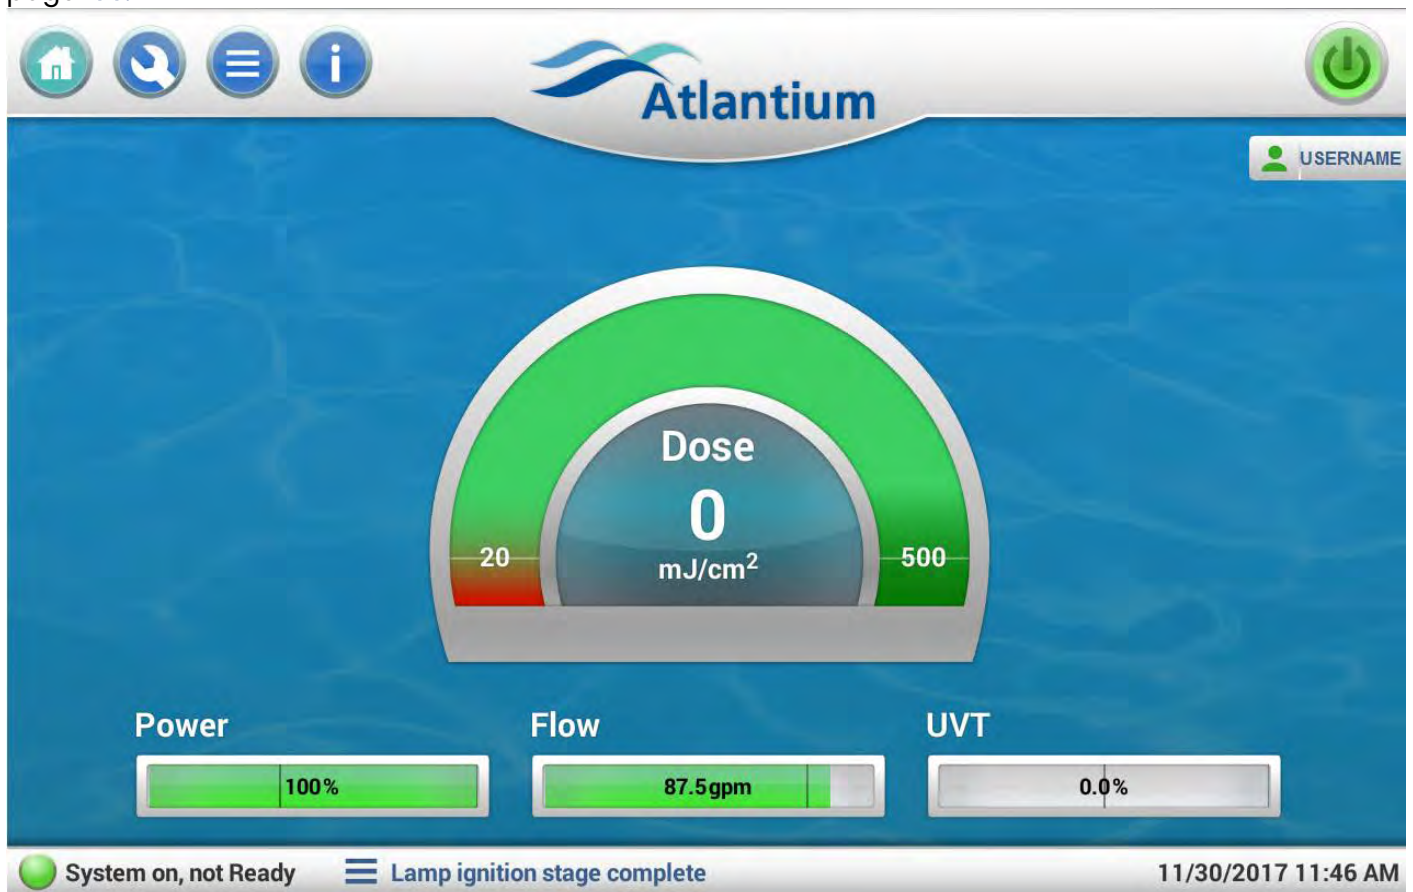

Figure 8-2: Main screen showing on-spec system (generic)
- Step 5.** Check that the Main screen shows that system is working properly according to spec (see Figure 8-2)